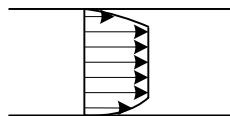

Figure 2-3.2: Plug flow of a Binghamian fluid.
b) Plug flow will occur at any laminar flow since shear stress is low in the middle of the pipe. The Bingham model predicts an $YP = 9.1 \text{ Pa}$. This is a theoretical value, but given time at steady-state laminar flow, gel strength will develop, in fact approaching the level of the YP . Shear stresses below this level will lead to gel (flocculation) as shown in Figure 2-3.2